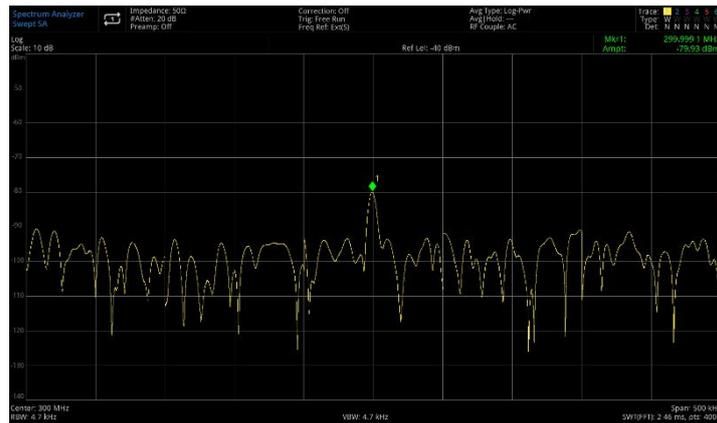

Figure 3-11 Signal Close to Noise Floor
5. Decrease the sweep bandwidth to 500 kHz (as shown in Figure 3-11).